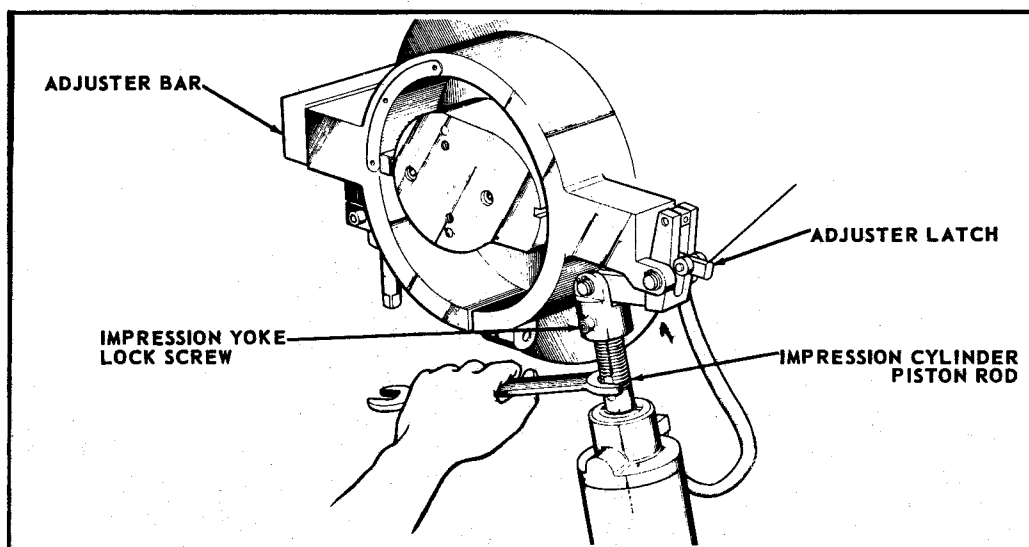

Figure 7
3. Loosen impression yoke lock screw and turn impression cylinder piston rods until there is about 1/8" clearance between end of the air cylinder and piston, preventing piston from grounding at end of stroke. Lock Impression yoke lock screw. (See Figure 7.)